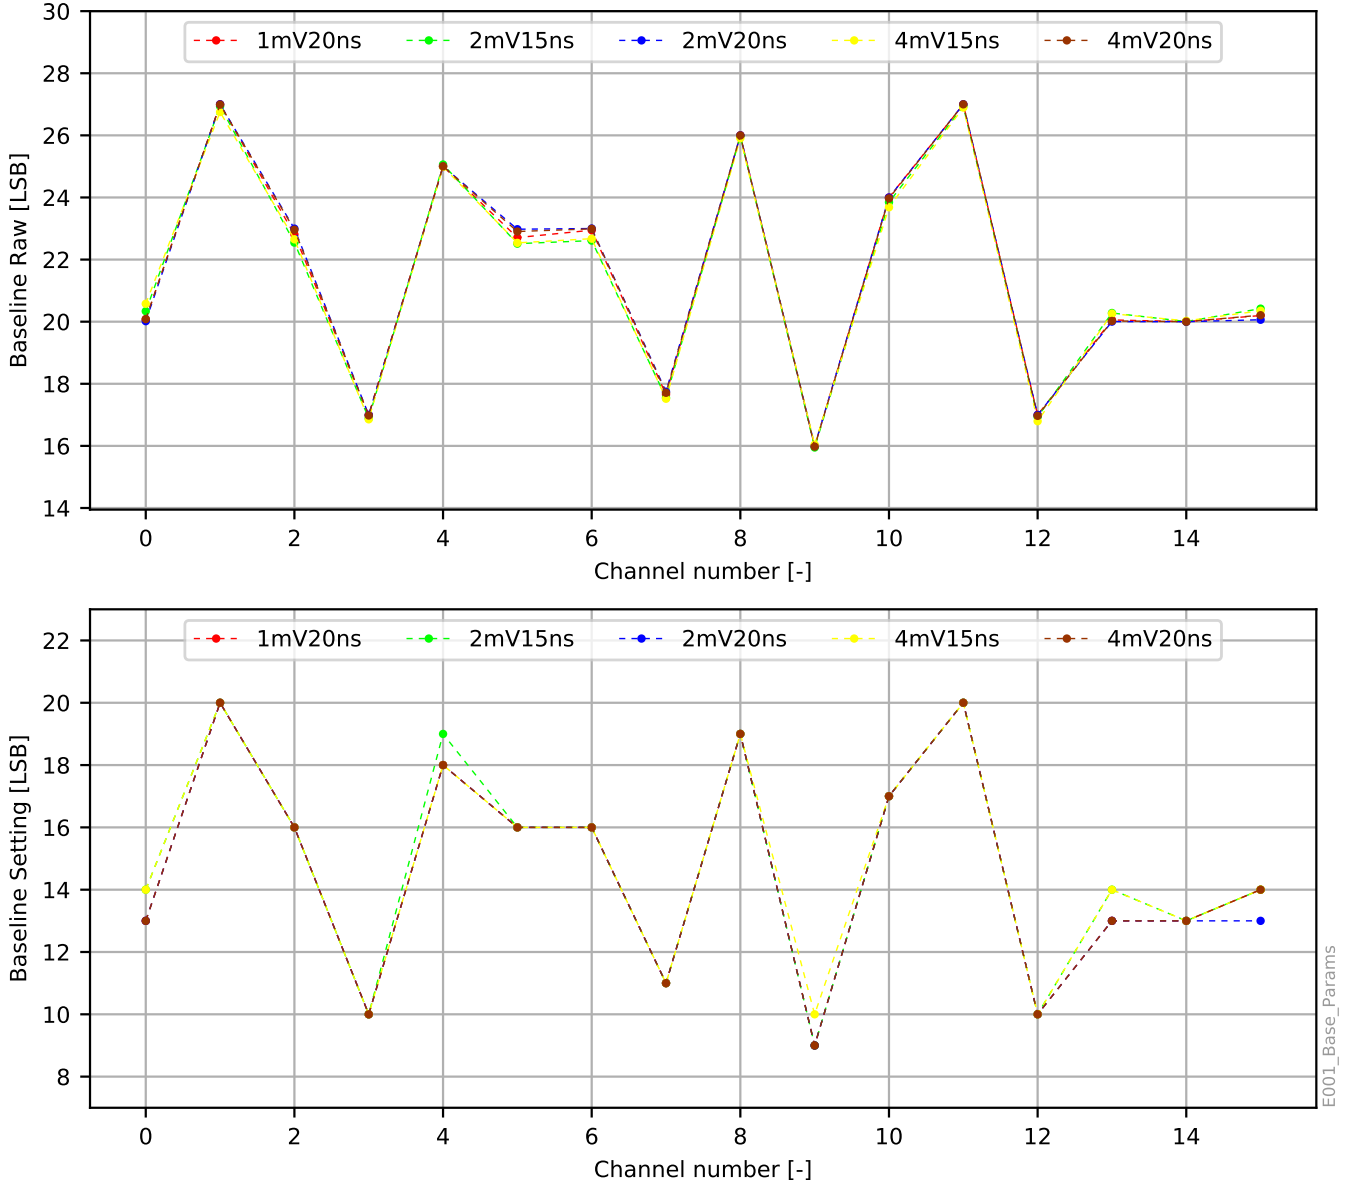

Figure 3: Raw baseline values and baseline setting corrected to center value (15).
The noise baseline scan was done to calibrate baseline settings to the same level. The scan versus baseline setting is done (threshold DAC is set to 0) and counts from the channels are read in each step. The baseline setting is calculated as weighted average. The results of measurements are presented in Figure 3 - obtained results of baseline settings and their values corrected to mean baseline setting (15). The baseline settings after calibration are presented in Table 2 for all measured configurations. All following measurements are done with calibrated baseline settings.